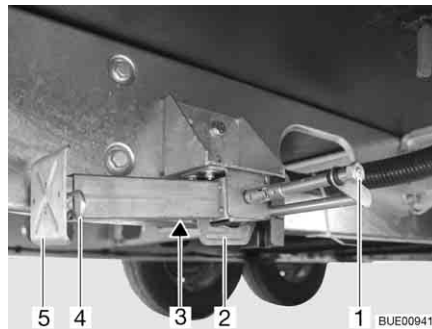

Fig. 20 Steady leg
- Place the socket spanner on the hexagonal nut (Fig. 20,1) and rotate until the steady leg is in a perpendicular downward position.
- If the length of the steady leg can be adjusted, remove the splint (Fig. 20,4) out of the support foot extension (Fig. 20,5).
- Place the socket spanner on the hexagon nut (Fig. 20,1) and rotate until the steady leg is clear of the ground.
- Push in the support foot extension (Fig. 20,5) and insert the splint (Fig. 20,4) in the drilled hole in the support foot extension.
- Rotate the hexagonal nut (Fig. 20,1) until the steady leg has swung upwards and the guide (Fig. 20,2) has reached the very end of the slot (Fig. 20,3).